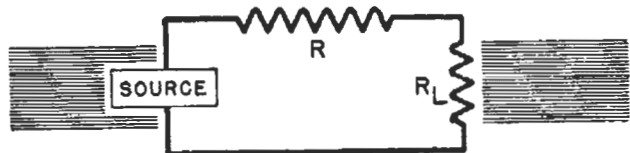

FIG. 30. The series resistor can reduce the voltage to the right amount for the load but cannot separate frequencies.
Let us assume that our load is a resistor R_L , as shown in Fig. 30, and that the voltage source supplies more voltage than we want to apply to R_L . Now, suppose we put resistor R in series with R_L . As you have already learned, the source voltage will divide, part appearing across R , the rest across R_L . This same division will occur whether the source supplies a.c. or d.c., and the frequency of the source makes no difference. Thus, the effect of resistor R is to reduce the amount of voltage available for the load R_L . The amount of reduction depends on the relative resistance of R and R_L . Therefore, by adjusting the value of resistor R , we can adjust the voltage across R_L to the desired value. However, resistor R will affect only the amount of voltage. It has no effect on the fre-
► Again, as in Fig. 30, the division of voltage between the load and the series coil depends on the relative op-
Suppose we go back to our resistive circuit shown in Fig. 30 for a minute. You will recall that the voltage division depends on the relative resistance values, but the same division occurs regardless of frequency. This circuit cannot separate d.c. from a.c., nor can it separate alternating currents of different frequencies.